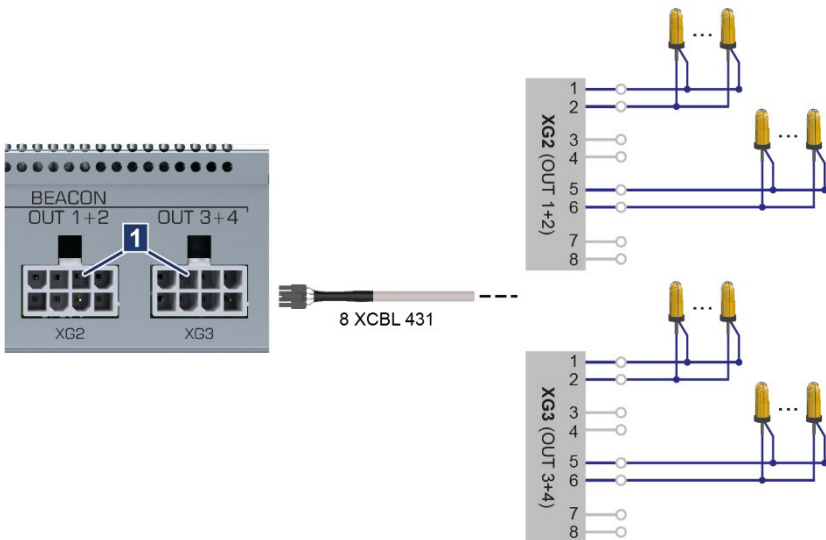

Fig. 6-5: Example of connection to XG2 and XG3 for line wiring
1. Plug the connection cable 8 XCBL 431 into the terminal *XG2 (OUT 1+2)* or *XG3 (OUT 3+4)* (→ Fig. 6-5/1) on the beacon control module and connect the flying leads to the terminal points provided (→ chapter 6.3.2, page 47).